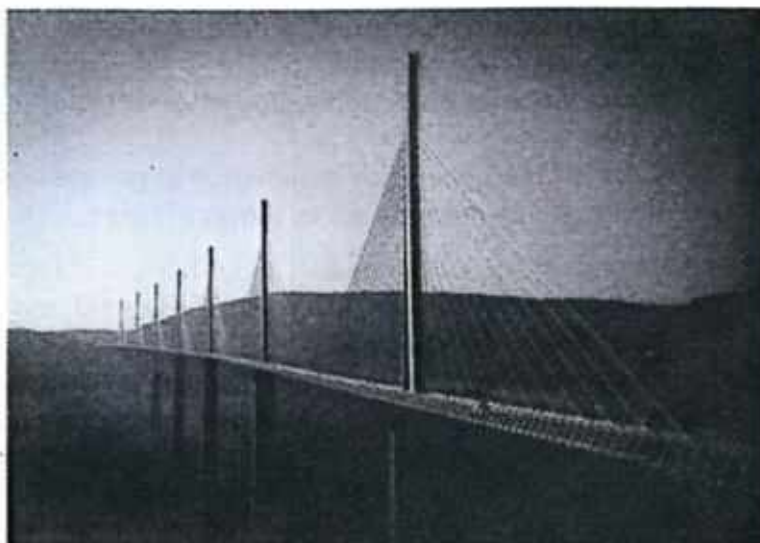

Fig. 7.31: Safe design of a bridge
- a. Engineering: in engineering the compressibility of solids have great deal, like in construction and building design. Engineers must take into account the compressibility of material used and requirement. In bridges the compressibility of material is necessary for safe design, as shown in figure 7.31.